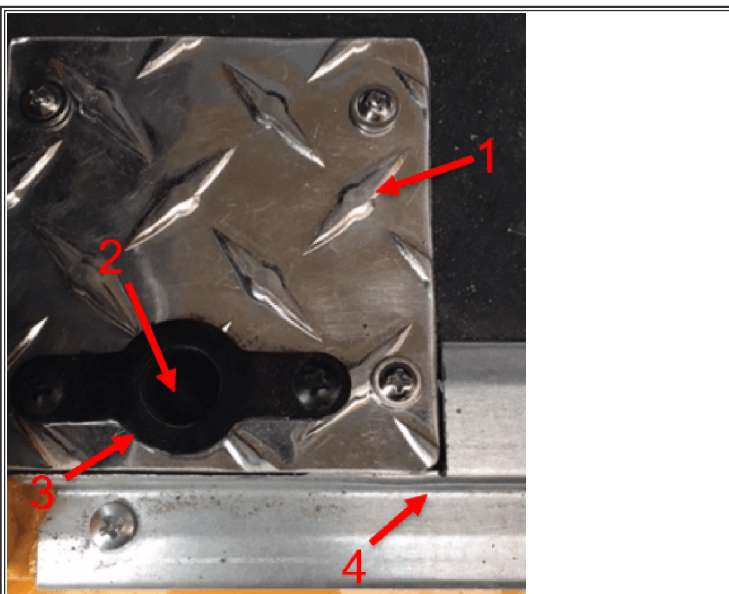

Figure 3: Corrective plate
1. Install new metal cover plate as shown in figure 3 below.
2. Trim threshold trim to fit around newly installed metal cover plate, and reinstall as shown in Figure 3 above